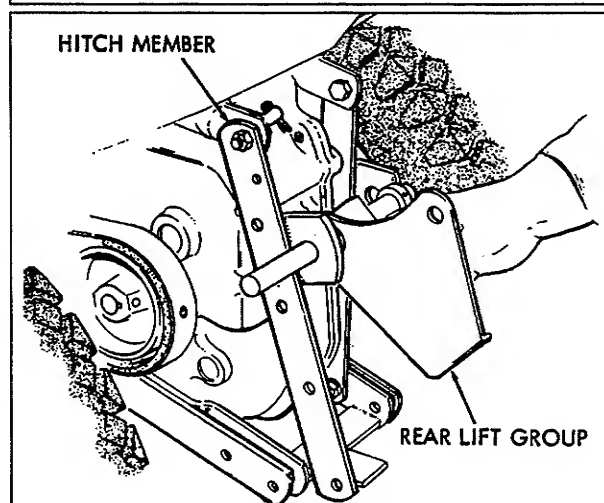

Figure 14
2. Swing hitch member outward and install lift assembly as shown. Return hitch member to original position and replace cap screws. See Figure 14.